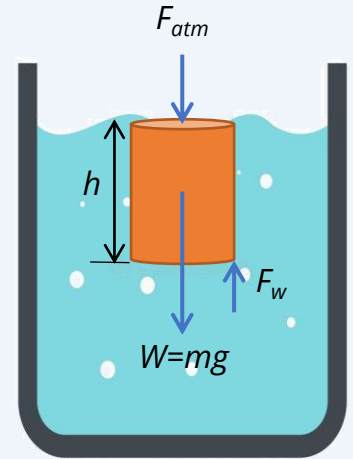

Figure 1.8: Forces acting on submerged object.
When an object submerged in water, with the top part touching the atmosphere as shown in Figure 1.8, the forces acting on the object are; weight of the object (W), force of atmosphere, (F_{atm}) pressing down and force of water (F_w) pushing up.